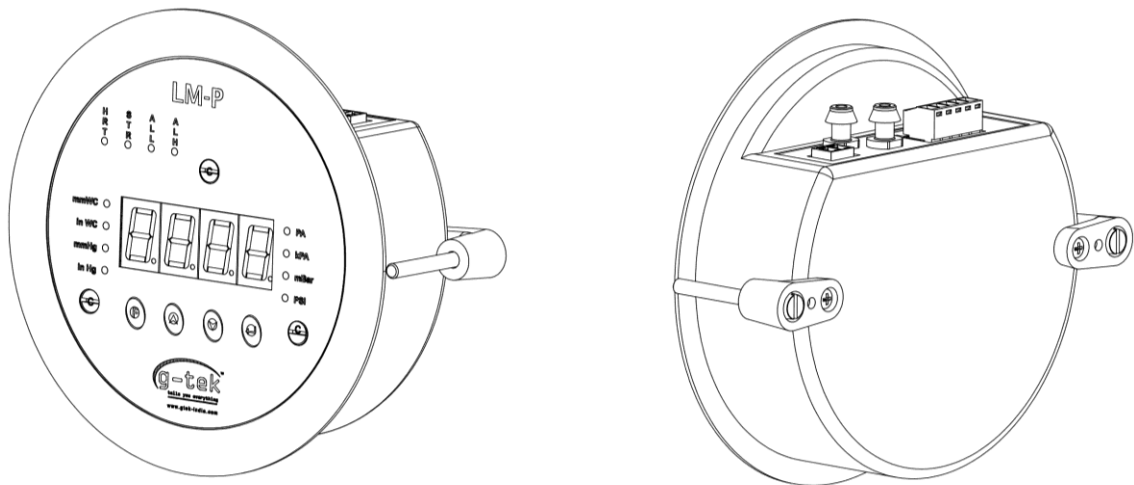
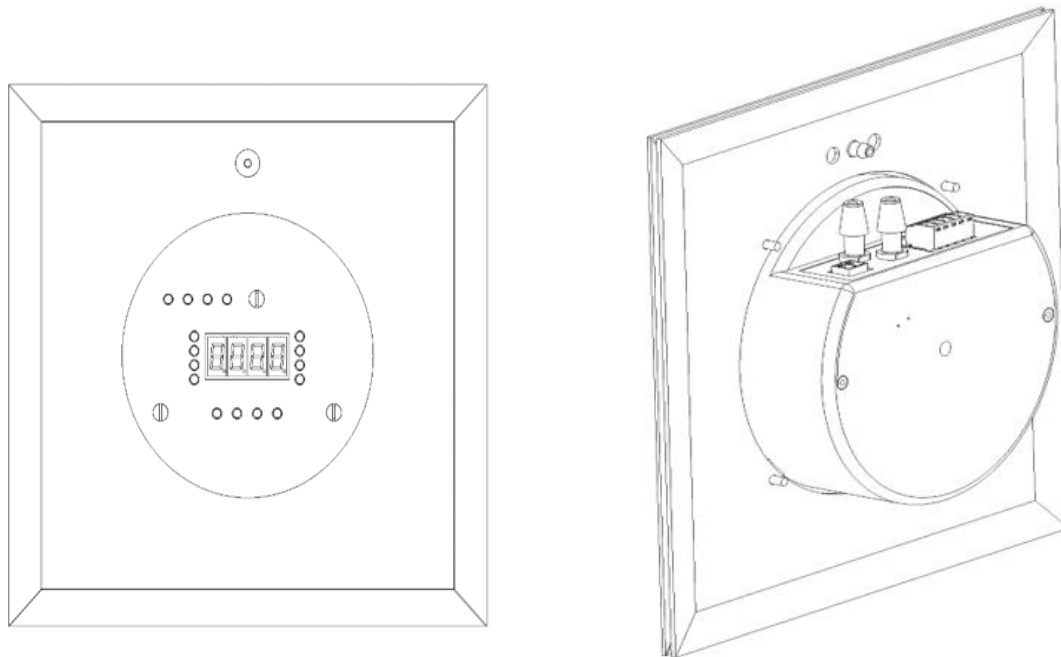

Figure 1 Front and back view of Round plate LM P RS485 data logger (Model No:63xx)
Figure 2 Front and back view of Square plate LM P RS485 data logger ((Model No:64xx)
- There are two variants of LM P RS 485 data logger(refer order code) – Square and Round plate as shown in figure 1 and figure 2.